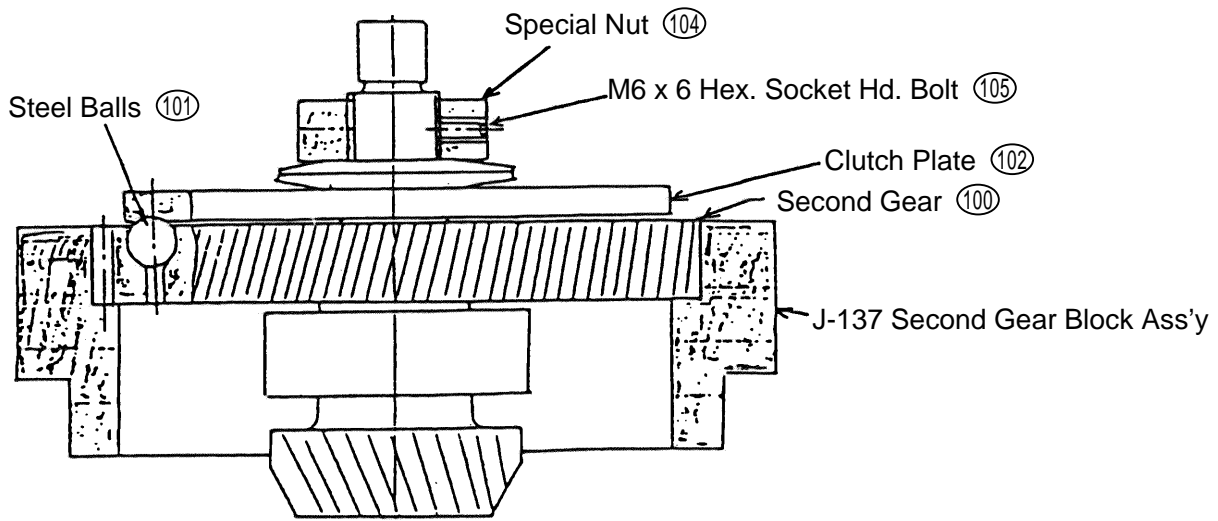

Fig. 7
The slip clutch portion can be removed by lightly tapping with a plastic hammer the end surface of the Crank Case (25) where the Gear Cover (110) was mounted. To remove the First Gear (95), remove the D47 C-Type Retaining Ring (22) and push down on the Gear Cover side of the Crank Shaft (21) with a hand press to release the pressure fitting. The First Gear (95) and related parts can then be separated. To disassemble the slip clutch portion, secure a J-137 Second Gear Block Ass'y (Special Repair Tool Code No. 970917) in a vise, insert the Second Gear (100) in the block ass'y as illustrated in Fig. 7, and loosen the M6 x 6 Hexagon Socket Hd. Set Screw (105). Finally, loosen the Special Nut (104) by turning it counter-clockwise with a J-122 Wrench (Special Repair Tool, Code No. 970884), and disassemble the remaining parts. At this time, be very careful not to lose the seventeen Steel Balls (101) which are installed between the Second Gear (100) and the Clutch Plate (102).